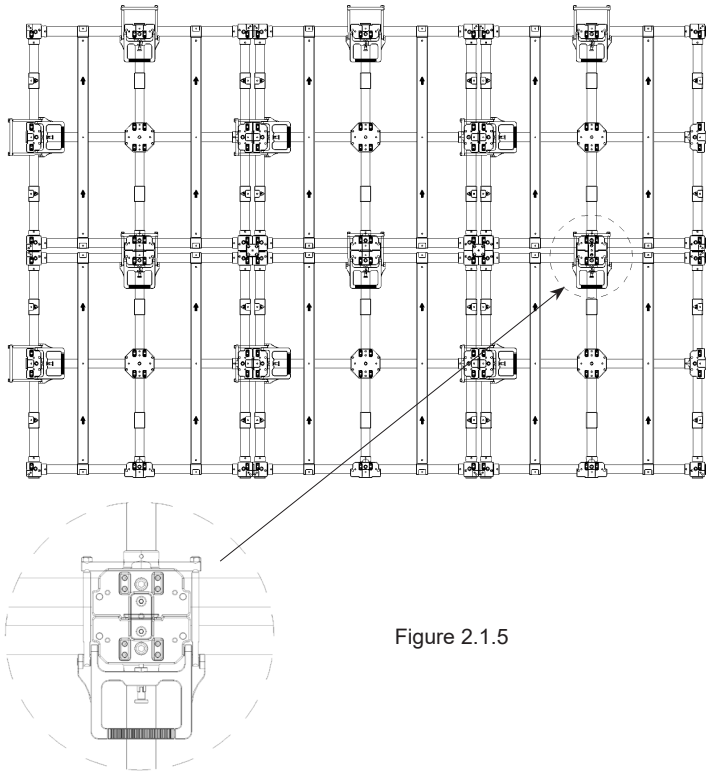

Figure 2.1.5
Step 5: Fix connecting piece B to the adjacent hasp lock positions on both sides with metric screws M6*16 (Figure 2.1.5).